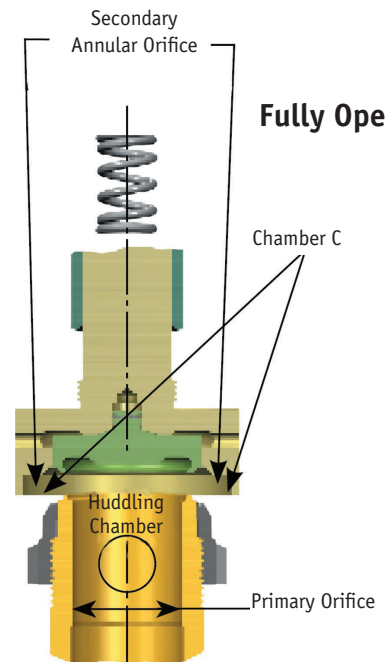

Figure 3: SRV fully open
Once the valve has opened, an additional pressure build-up occurs at (C) as shown in Figure 3. This is due to the sudden flow increase and the restriction to flow through another annular orifice formed between the inner edge of the disc holder and the outside diameter of the adjusting ring. These additional forces at (C) cause the disc to lift substantially at "pop." Flow is restricted by the opening between the nozzle seat and disc seat until the disc seat has been lifted from the nozzle seat by approximately one-quarter of the nozzle-throat diameter. After the disc has attained this degree of lift, flow is restricted by the primary orifice rather than by the area between the seating surfaces. Blowdown (the difference between opening and closing pressure) can be controlled within limits by positioning the single adjusting ring. Blowdown is caused when the spring force is unable to overcome the summation of the forces at (A), (B), and (C) until the pressure at (A) drops below the set pressure.